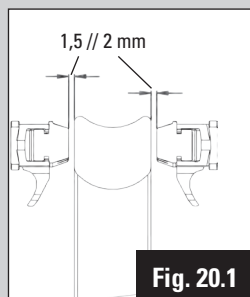

Fig. 20.1
2. Pad clearance adjustment (3 mm Allen key, fig. 20.1): clockwise rotation: the pad moves away from the rim // anti-clockwise rotation: the pad moves closer to the rim